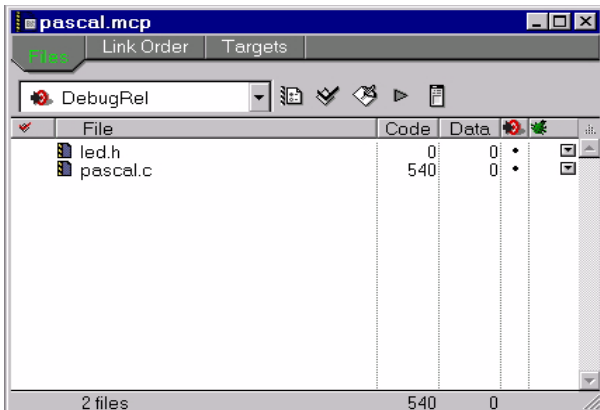

Figure 1 Project window
5. Press the **Open** button. A project window is displayed with the title `pascal.mcp` (see Figure 1).